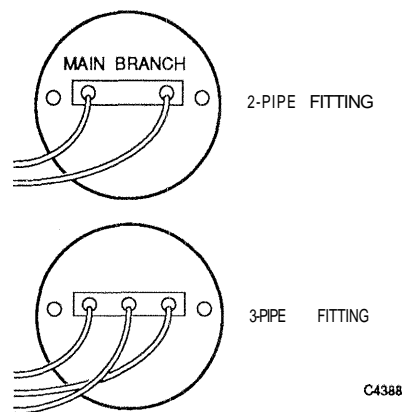

Fig. 8. Tubing Inserted in Banjo Fitting.
2. Insert the tubing into the O-rings of the main and branch lines of the fittings (Fig. 8).